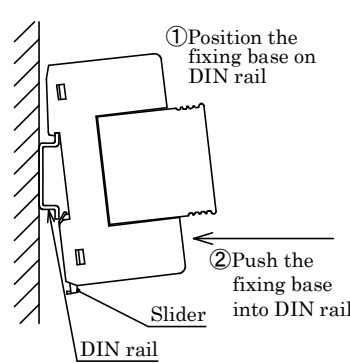

Fig.2 Installation on DIN rail
- a) Installation method (Ref.Fig.2) :